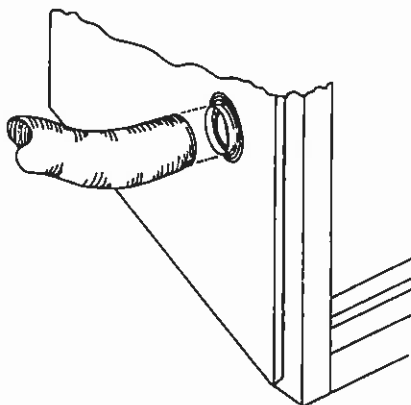

Figure 49
**Step 3.** Secure the duct to the air gate assembly, using the pipe clamp provided (Figure 49).